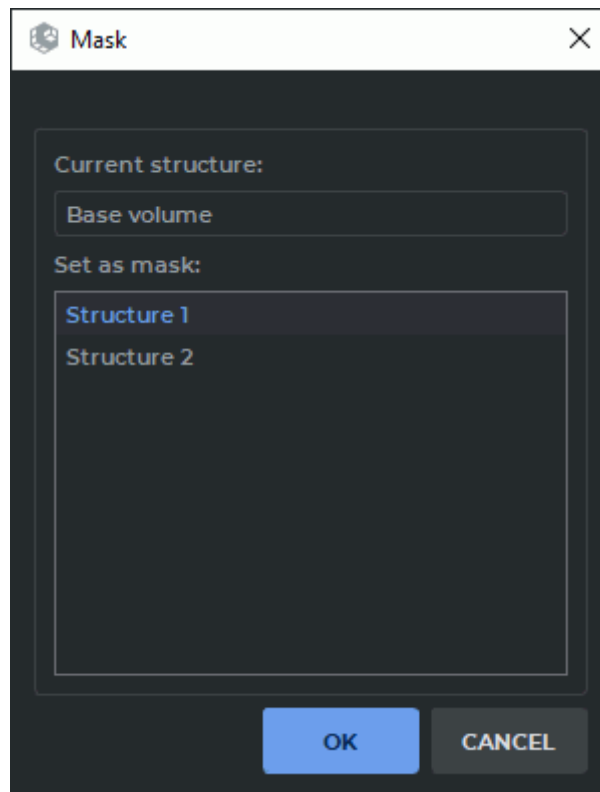

Figure 6.7: Select mask dialog
2. Click on the **Set Mask**  button. The dialog shown in Fig. 6.7 will be displayed.